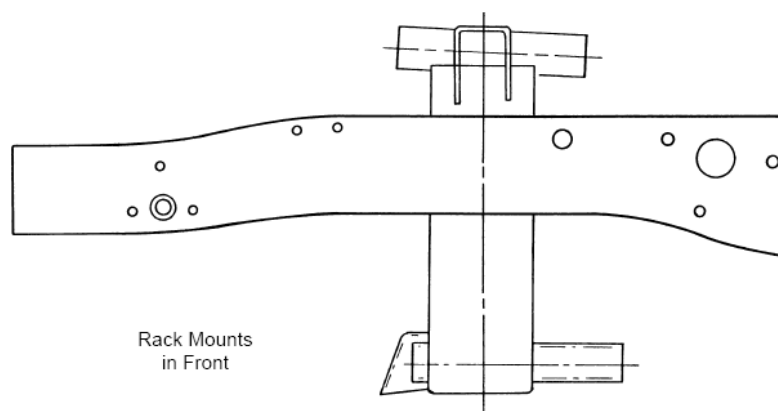

Figure 2- Crossmember Install
4. Trial fit the new crossmember into the rails. It should be located with its centerline on the marked spindle centerline. See **Figure 2**. During boxing, the rails may have a tendency to bow outward slightly, if they were not clamped across the frame during welding. If there is a small gap, center the crossmember and fill with weld. If there is a large gap, the rails may be undersize from grinding too much material off the edges of the rails while fitting the boxing plates. If this is the case, a spacer or filler plate may be required. If the crossmember is too wide and does not fit in, grind it to fit snug. It should be seated flat on the top of the frame rails. A double check of the fit is that the center tube of the crossmember is level both side to side and front to back. (Do not level the upper control arm mounts, as 3° of anti-dive is built into the upper arm mounts). If you have your truck set at more than a slight rake and the crossmember is tilted, then level it at this time before welding. Clamp in place, double check your measurements, making sure crossmember is squared on the frame and spindle centerline, then tack weld in place. Tack weld the top and bottom of the crossmember at this point. Proceed to steps 5 & 6, trial assembling all the remaining components and checking the alignment. If all goes well, then remove the parts and finish weld the crossmember in place. Be sure to fully weld the crossmember and upper shock mounts to the frame rails, as the front end weight of the truck is supported by the upper shock mounts and the crossmember helps to keep the front frame rails from twisting and flexing, so good strong welds are required.